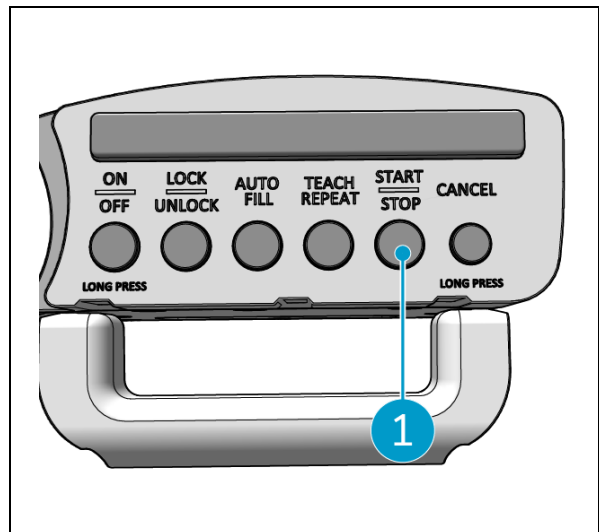

Figure 41
5. Press the Start button (Figure 41, pos. 1) on the handle controller to continue the cleaning for another sessions.